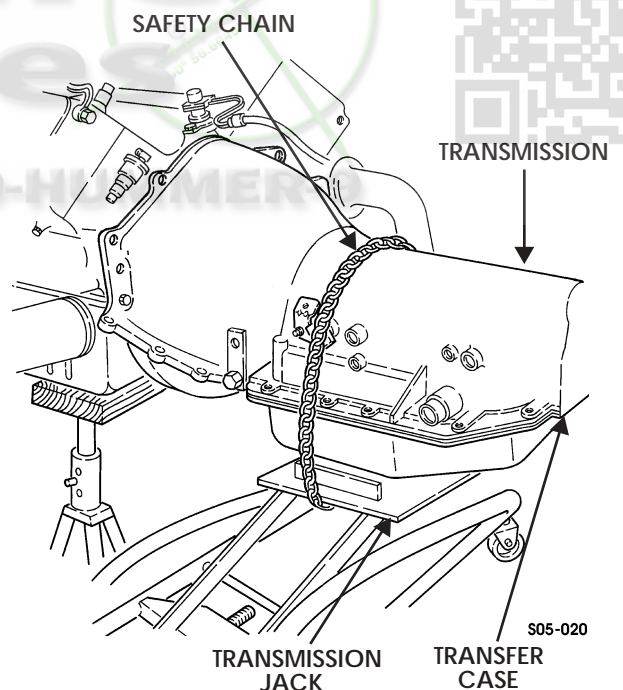

Figure 5-62: Transmission/Transfer Case Assembly
2. Place transmission and transfer case assembly on transmission jack and secure with safety chain (Figure 5-62).